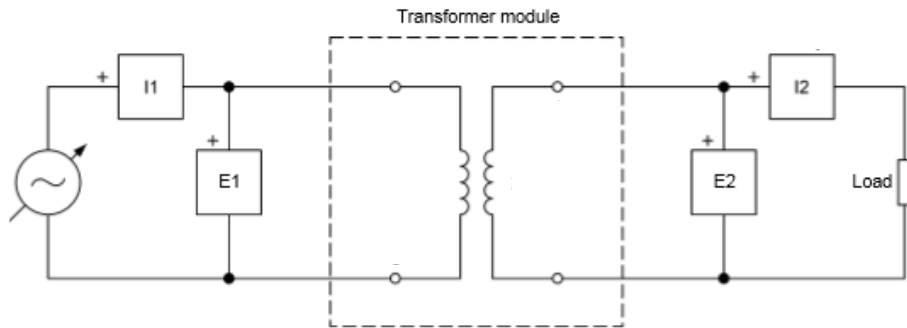

Fig. 2
Now connect a resistive load (i.e., with unity power factor) across the secondary terminals and measure both the primary and secondary voltages and currents as indicated Figure 2 below. Start 1200 Ω , then decrease the load resistance in increments according to the attached table below. For each load resistance, record $I_p = I_1$, P_p , $I_s = I_2$, $V_s = E_2$, P_s , and calculate the transformer efficiency, while $V_p = E_1$ is equal to the utility supply which should be near 208 V. Fill in the Table below. Then compute (afterwards) the transformer efficiency η and voltage regulation (VR) under each load. Record V_p only once since this changes very little during the experiment.